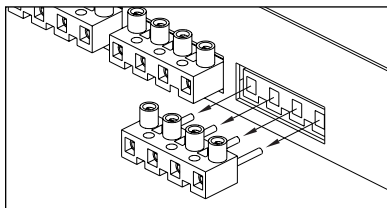
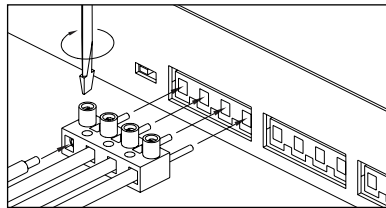

Figure 3
Figure 4
3. Make the connections to the SVL-4. The amplifier/speaker connectors on the SVL-4 are removable. If you wish, you may remove the SVL-4's connectors to facilitate installation [see (Figure 3)]. Strip 3/8" of insulation from the end of each wire. Tightly twist the end of each wire until there are no frayed ends. Insert each wire into the appropriate hole on the connector terminals. Be certain that proper phasing is observed—connect the positive terminals on the SVL-4 to the positive terminals on the amplifier and speakers and the negative terminals on the SVL-4 to the negative terminals on the amplifier and speakers. Re-install the connectors if they were removed. See (Figure 4).